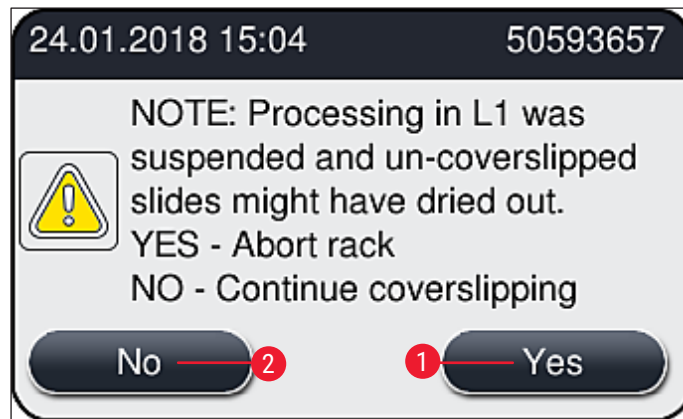

Fig. 113
9. The instrument software performs a fill level scan. The user receives an information message when the check is finished (→ Fig. 113).